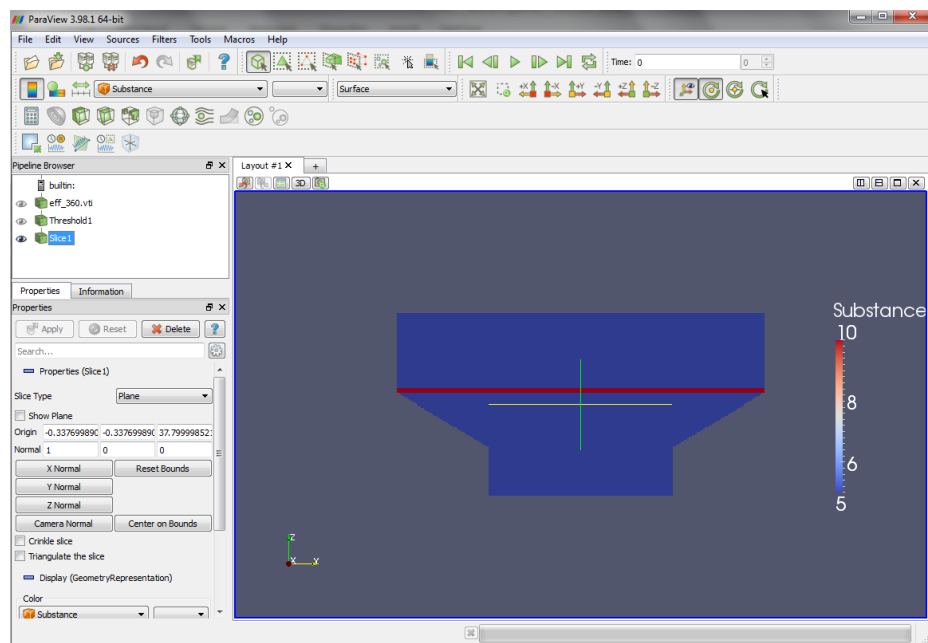

Figure 6.2-10: After application of the Slice filter
- **Apply** the **Slice** filter and disable the **Show Plane** option in the **Properties** tab (see Figure 6.2-10).